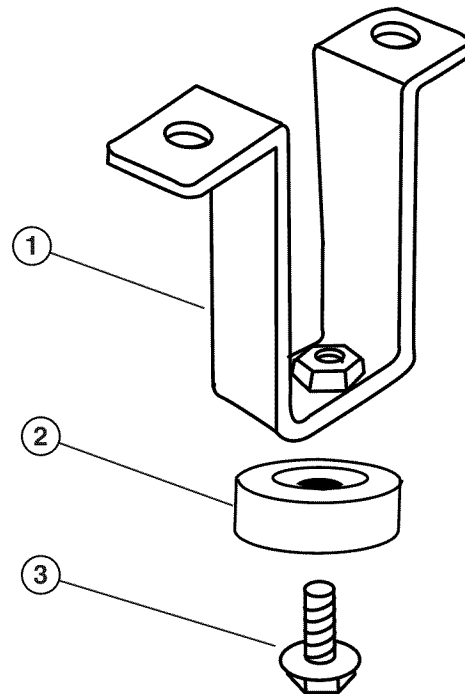

Figure 6 – Installing the Rubber Pads
3. Install the rubber pads to the feet using the two M6 x 18 flange bolts (see *Figure 6*).